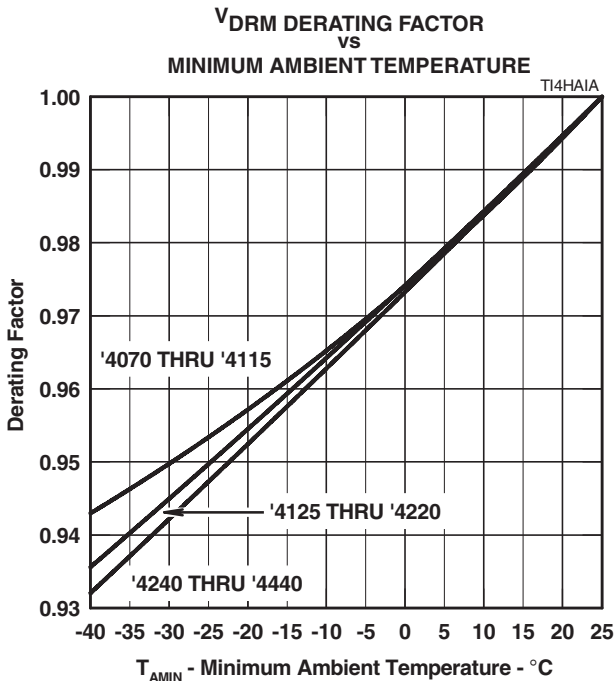
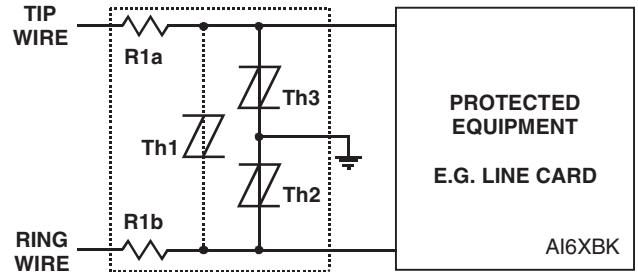
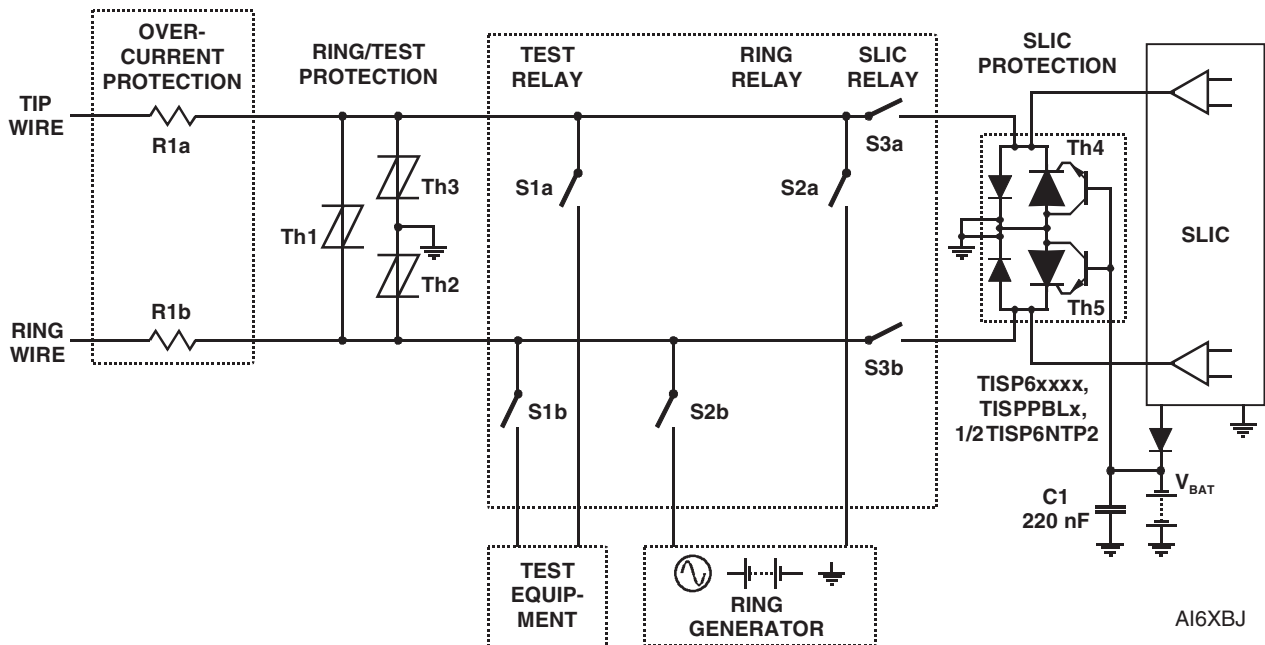

Figure 10.
Figure 15. PROTECTION MODULE
Figure 17. LINE CARD RING/TEST PROTECTION
- NOTES: 1. See Applications Information and Figure 10 for voltage values at lower temperatures.
The protector characteristic off-state capacitance values are given for d.c. bias voltage,  $V_D$ , values of 0, -1 V, -2 V and -50 V. Where possible, values are also given for -100 V. Values for other voltages may be calculated by multiplying the  $V_D = 0$  capacitance value by the factor given in Figure 6. Up to 10 MHz, the capacitance is essentially independent of frequency. Above 10 MHz, the effective capacitance is strongly dependent on connection inductance. In many applications, such as Figure 15 and Figure 17, the typical conductor bias voltages will be about -2 V and -50 V. Figure 7 shows the differential (line unbalance) capacitance caused by biasing one protector at -2 V and the other at -50 V.
Figure 10 allows the calculation of the protector  $V_{DRM}$  value at temperatures below 25 °C. The calculated value should not be less than the maximum normal system voltages. The TISP4260H3LM, with a  $V_{DRM}$  of 200 V, can be used for the protection of ring generators producing 100 V rms of ring on a battery voltage of -58 V (Th2 and Th3 in Figure 17). The peak ring voltage will be  $58 + 1.414 \times 100 = 199.4$  V. However, this is the open circuit voltage and the connection of the line and its equipment will reduce the peak voltage. In the extreme case of an unconnected line, clipping the peak voltage to 190 V should not activate the ring trip. This level of clipping would occur at the temperature when the  $V_{DRM}$  has reduced to  $190/200 = 0.95$  of its 25 °C value. Figure 10 shows that this condition will occur at an ambient temperature of -22 °C. In this example, the TISP4260H3LM will allow normal equipment operation provided that the minimum expected ambient temperature does not fall below -22 °C.